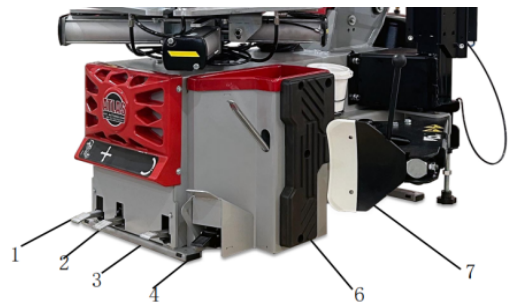
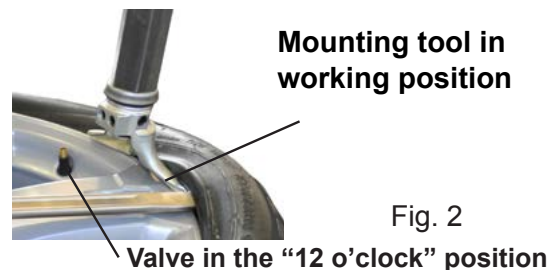

Fig. 1
Fig. 2
- Spin the clamping turntable by pressing the pedal **3** (fig. 1) until the valve reaches "12 o'clock" position in order to avoid possible damages to the valve and the pressure sensor - if present (fig. 2).
- Bring the tilting tower close to the wheel by pressing the pedal ref. **1** (Fig. 1), while simultaneously placing the mounting tool over the rim edge using the handle (fig. 1, page 21). Set the locking button **11** to position **2** (fig. 2, page 21) to lower the operating arm, then lock everything by setting the locking button in position **1**. In this way the mounting tool will automatically move to the right distance from the rim, at about 2 mm.
- With the lever ref. **5** inserted between the bead and the front section of the mounting tool **12**, move the tyre bead over the mounting tool (Fig. 3 e Fig. 2)